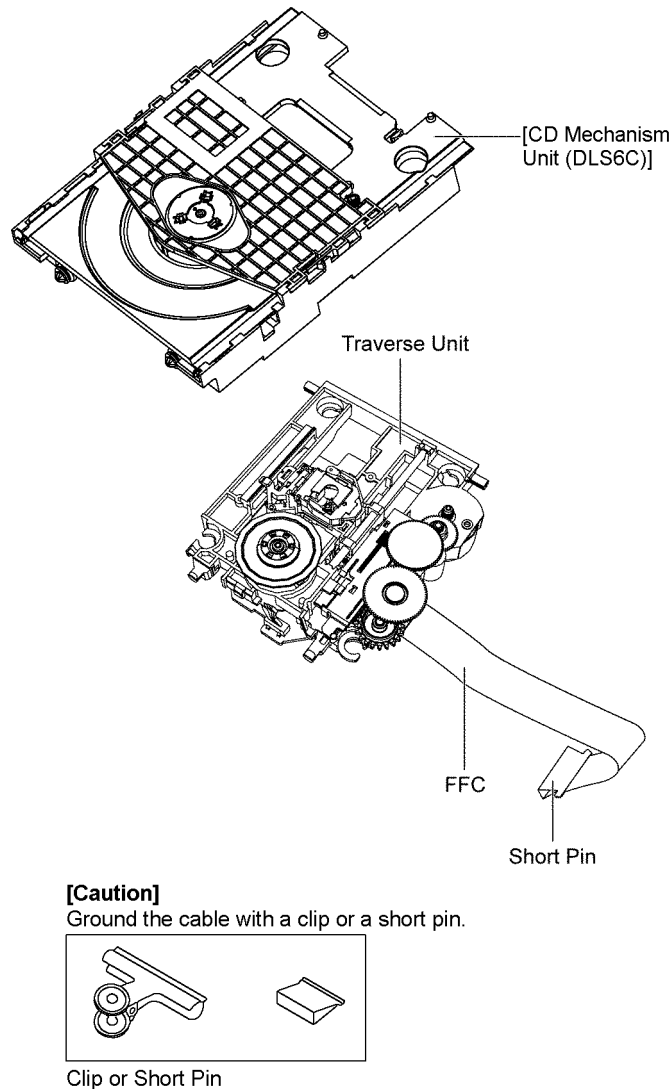

Figure 1
2. To prevent the laser diode from the electrostatic discharge damage, the flexible cable of the optical pickup unit removed should be short-circuited with a short pin or a clip. (Figure 1)